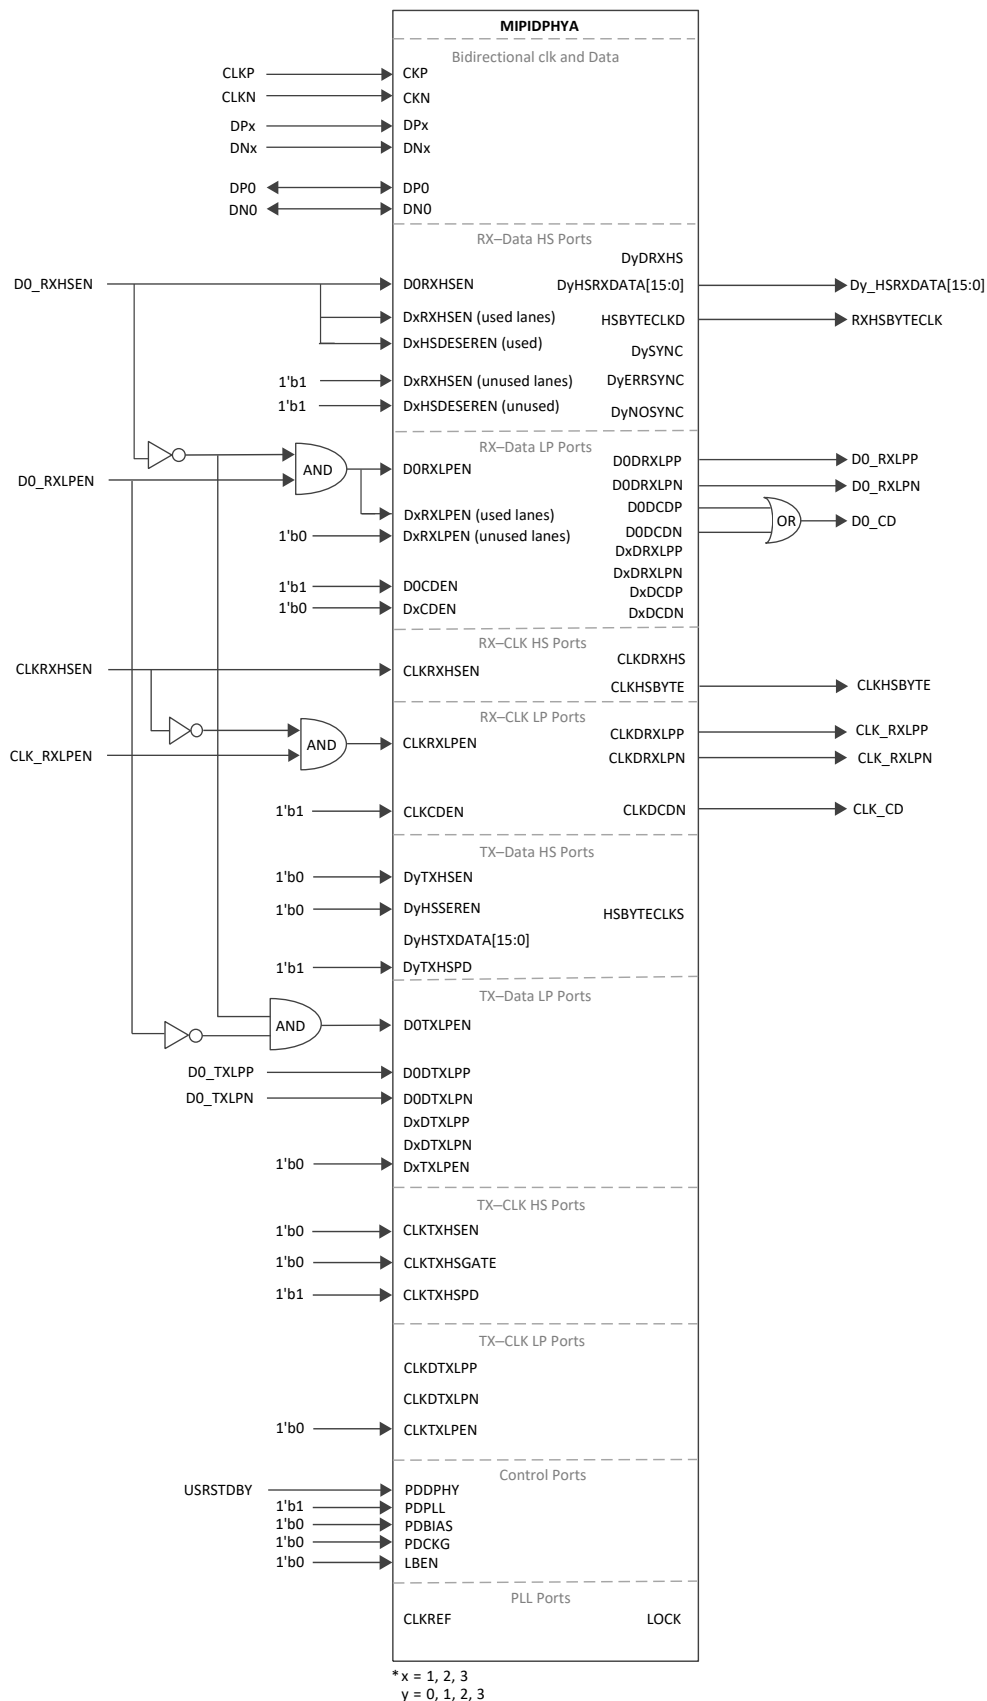

Figure 5.16. MIPI DSI Receive Interface with Hard D-PHY Module
- Figure 5.16 shows the signals connected to the fabric and the automatic settings when the hardened D-PHY is configured for DSI receive mode. The Clarity Catalog GUI settings automatically powers down unused lanes of the hardened D-PHY.
- Only D0 and CLK bits are used in LP mode. Only D0 is used as a bidirectional pin. D1, D2, and D3 pins (when those lanes are used) should be toggled between LP/HS mode based on D0 state as shown in Figure 5.16.